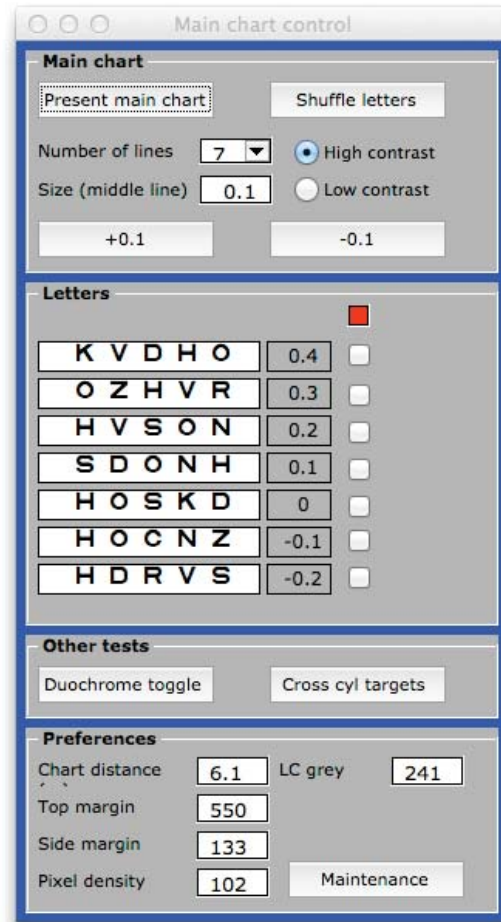

Figure 1. Chart control panel
6. The chart should be displayed on the external monitor and the chart's control panel should appear on the Mac's main screen (**Figure 1**).
2. The default test chart for standard testing should be a 7-line chart ranging from 0.4 to -0.2 (Figure 1).